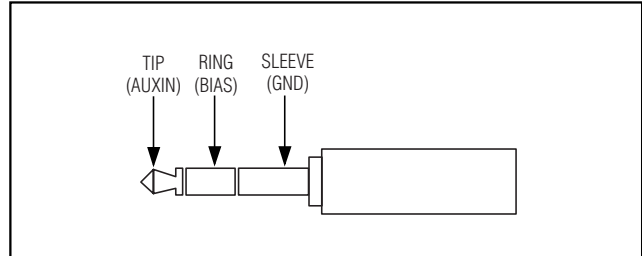

Figure 1. Typical Microphone Jack
- 9) Connect the 100mV, 1kHz AC source sine wave across the AUXIN jack (see Figure 1).